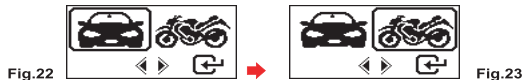

Fig.21
17. When the SOC (State of Charge) is low, the analyser will ask whether the battery condition is before charge or after charged (Fig.21 below) before computing the final results.